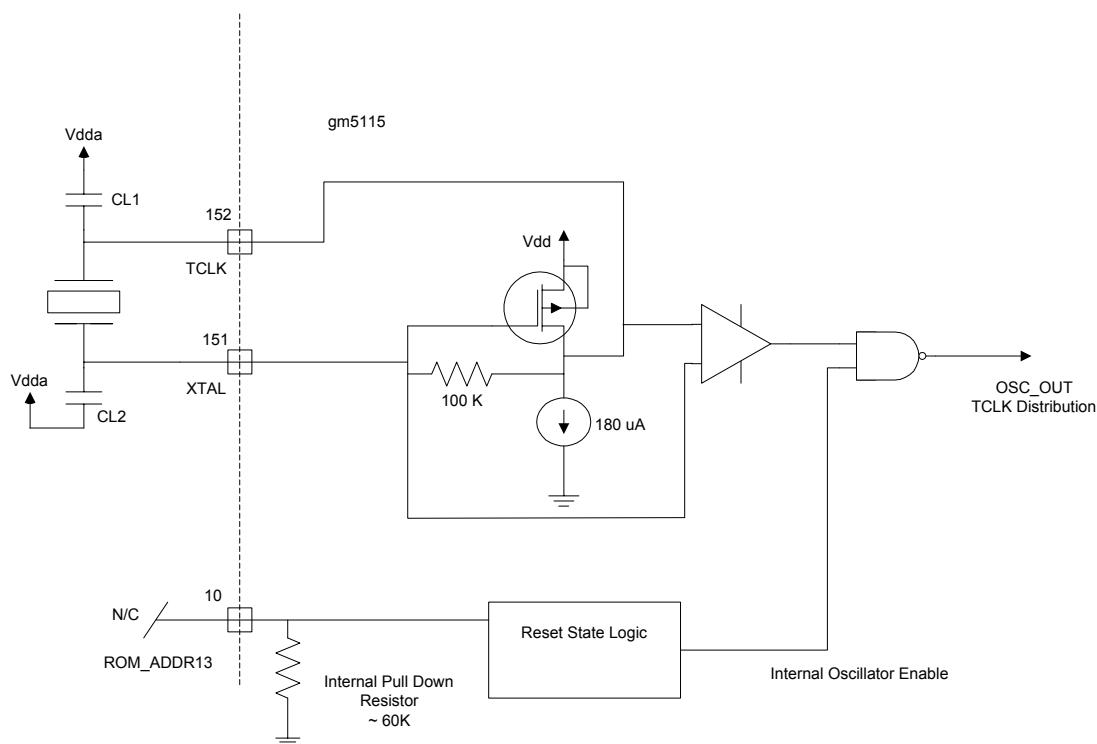
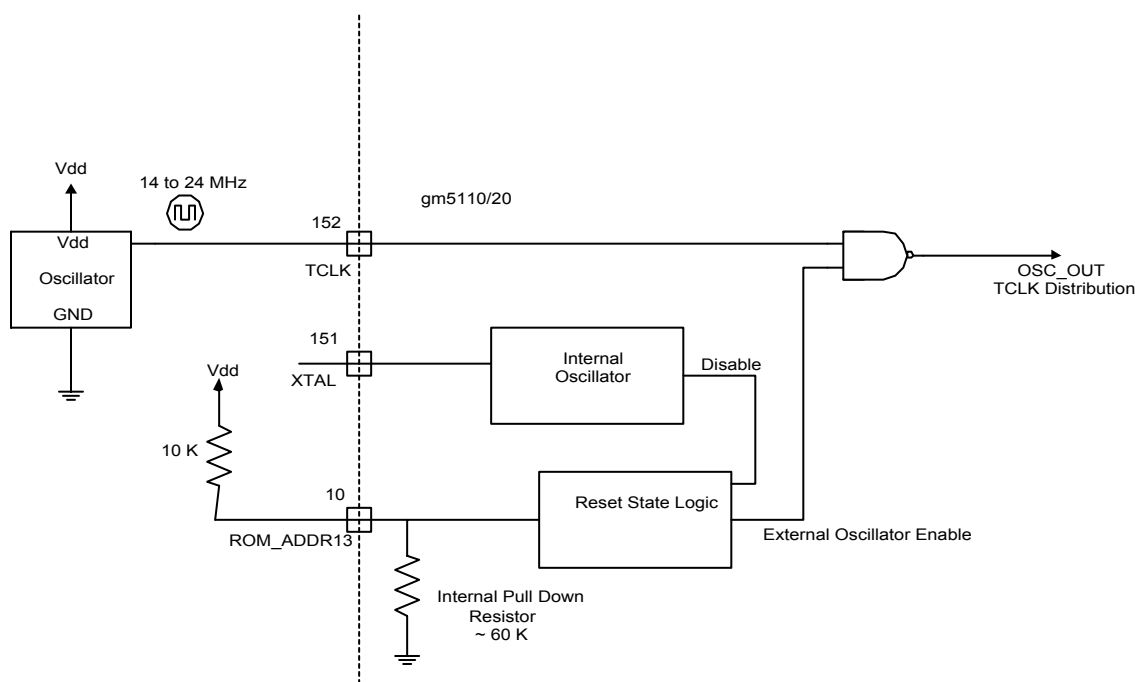

Figure 4. Using the Internal Oscillator with External Crystal
Figure 7. Using an External Single-ended Clock Oscillator
1. Crystal Input Clock (TCLK and XTAL). This is the input pair to an internal crystal oscillator and corresponding logic. A 14.3 MHz TV crystal is recommended. Other crystal frequencies may be used, but require custom programming. This is illustrated in Figure 4 below. Alternatively, a single-ended TTL/CMOS clock oscillator can be driven into the TCLK pin (leave XTAL as N/C in this case). This is illustrated in Figure 7 below. This option is selected by connecting a 10KΩ pull-up to ROM_ADDR13 (refer to Table 18). See also Table 14.
Another option for providing the reference clock is to use a single-ended external clock oscillator. When the gm5110/20 is in reset, the state of the ROM_ADDR13 (pin 10) is sampled. If ROM_ADDR13 is pulled high by connecting to VDD through a pull-up resistor (15K Ω recommended, 15K Ω maximum) then external oscillator mode is enabled. In this mode the internal oscillator circuit is disabled and the external oscillator signal that is connected to the TCLK pin (pin number 152) is routed to an internal clock buffer. This is illustrated in Figure 7.